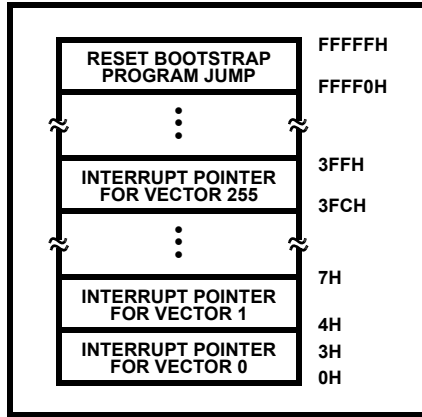

FIGURE 7. 80C286 REAL ADDRESS MODE INITIALLY RESERVED MEMORY LOCATIONS
The 80C286 reserves two fixed areas of memory in real address mode (see Figure 7); system initialization area and interrupt table area. Locations from addresses FFFF0(H) through FFFFF(H) are reserved for system initialization. Initial execution begins at location FFFF0(H). Locations 00000(H) through 003FF(H) are reserved for interrupt vectors.